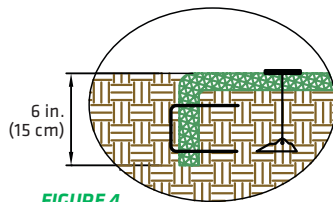

FIGURE 4
- ▶ Full-length edge of RECPs in critical areas should be anchored with a row of staples and anchors approximately 12 in. (30 cm) apart in a 6 in. (15 cm) deep x 6 in. (15 cm) wide trench. Backfill and compact the trench after stapling (Figure 4).